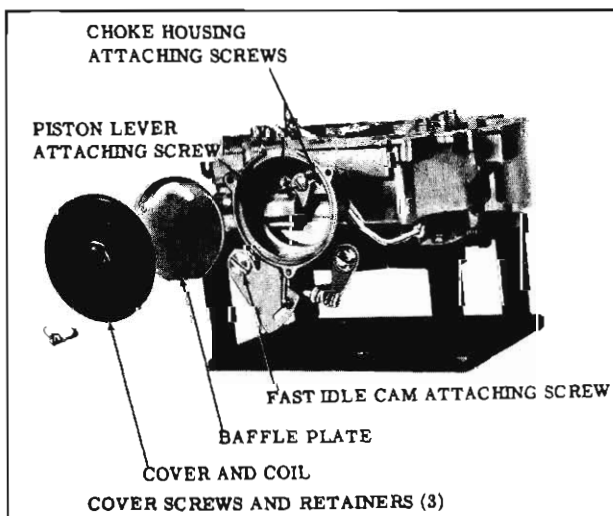

Fig. 4-156 Choke Assembly and Fast Idle Cam
2. Remove the three choke cover attaching screws and retainers, then remove the choke cover, gasket and baffle from the choke housing. (Fig. 4-156)